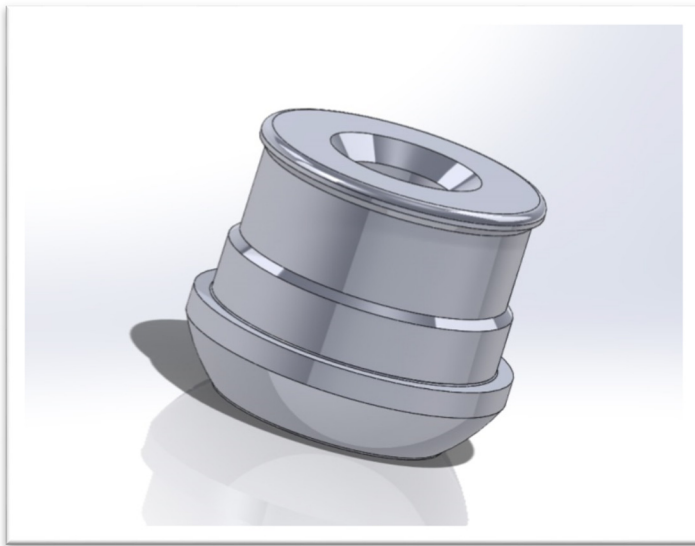

Figure 1
- 2) Place the elastomer seal and the Safety Plug assembly onto the figure 1502 female sub as shown if figure 1 & 2.